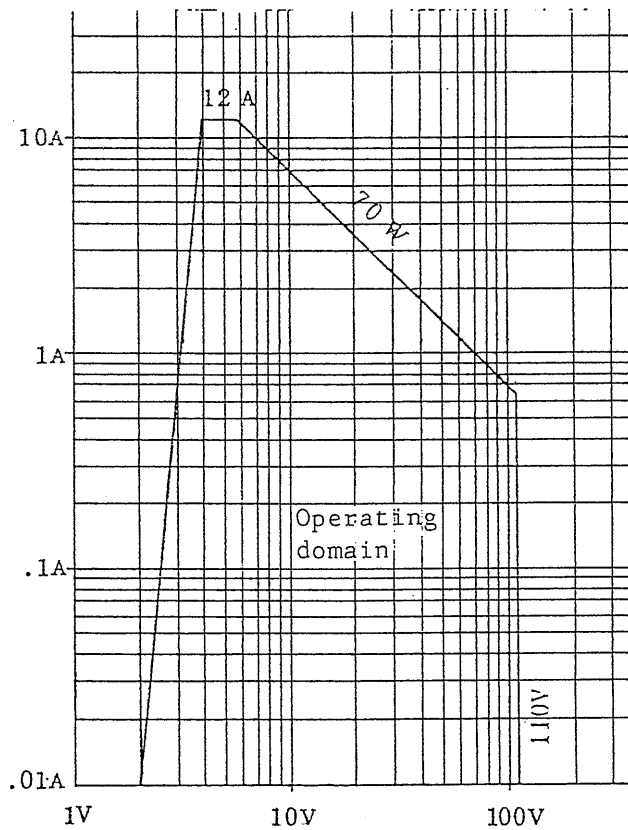

Figure 2-1-1
- o The allowable input voltage range is 4 - 110 V DC. (See Figure 2-1-1.)